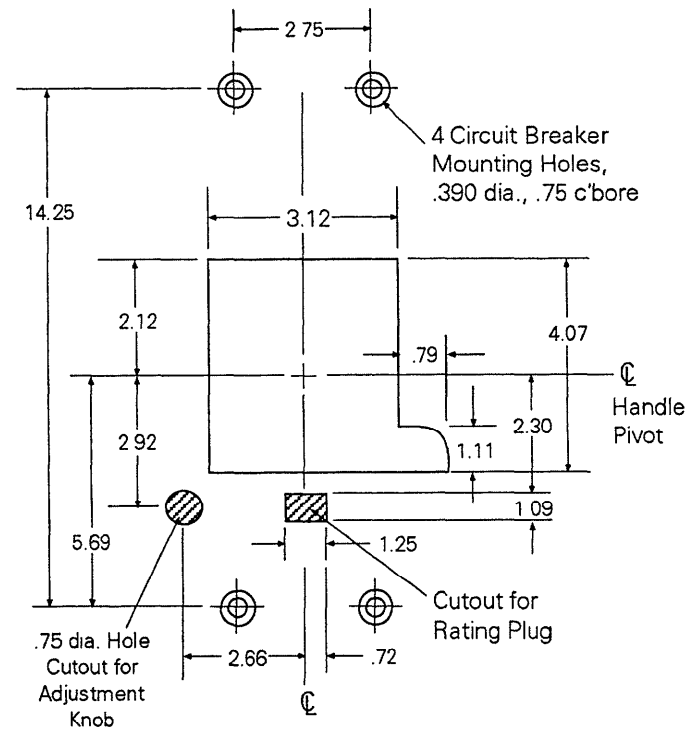

Figure 1. Mounting hole and escutcheon cutout pattern.
4. Drill and tap all mounting holes and make any necessary front-panel escutcheon cutouts, as shown in Figure 1.